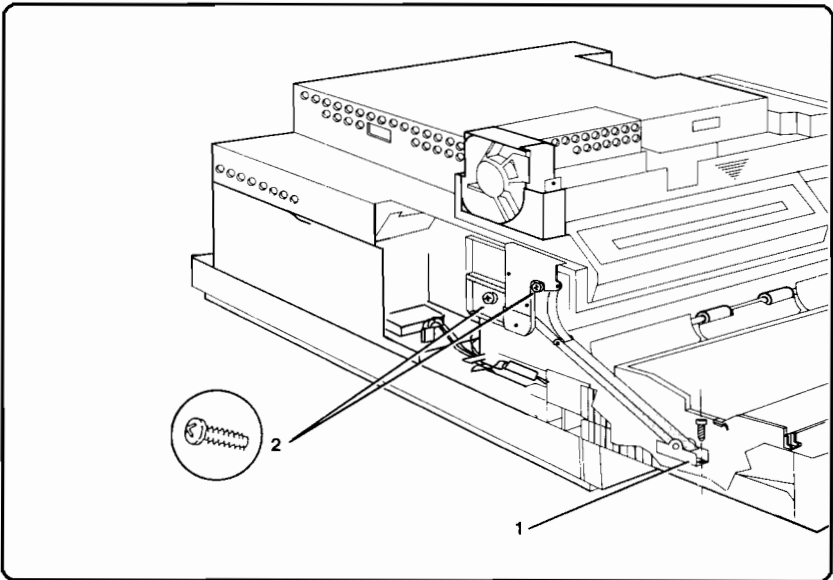

Figure 6-75. Power Switching Lever Assembly Removal
3. Remove the screw (1) securing the Power Switching Lever Bracket to the Paper Path Door (see Figure 6-75, callout 1). **Carefully** release the spring tension on the lever arm.
4. Remove the screws (2) securing the Power Switching Lever Assembly (see Figure 6-75, callout 2).